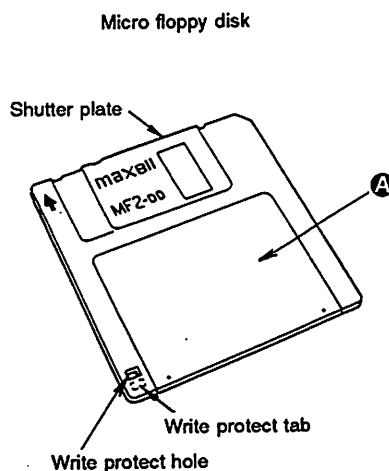

Fig. 3-3
After turning ON the power switch slowly insert the floppy disk with side **A** (as shown in Fig. 3-3) facing right until the eject push-button pops out.
(3) Write-protect hole (Fig. 3-3)
(4) Micro floppy disk (Fig. 3-3)